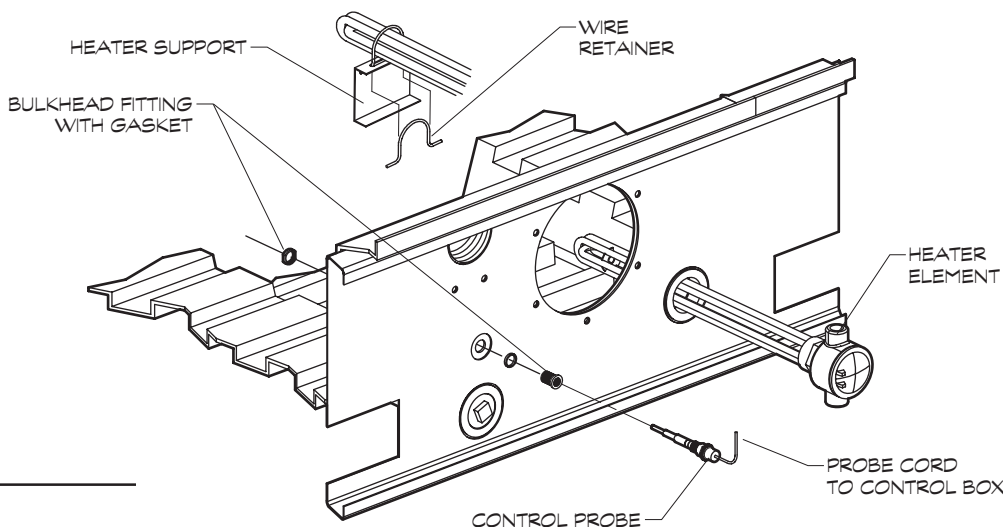

Figure 3
2. Install heater element as shown in Figure 3.
3. Attach heater support as shown in Figure 3.